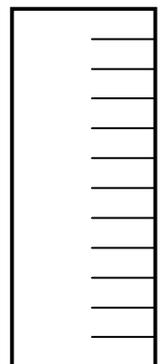

Figure 1
- b. Cut TripleSeal strip: 6” wide to wrap the pipe with 2”overlap. Every 1”, cut 3” flanges across the TripleSeal strip (Figure 1).